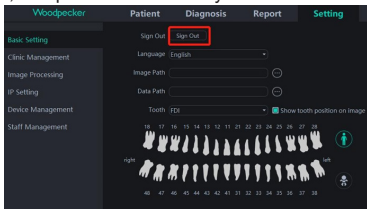

Figure 50
- (1) In case of unclear image, please adjust the exposure time first. If repeated adjustment of the exposure time is invalid, you can go to the software "Setting" -> "Device Management" to set the sensor parameters.
- (2) During the use of the software, when the server is unavailable due to some reasons, the software will enter the server disconnect interface, as shown in Figure 50. At this time, the user can check whether the network is normal or restart the server.